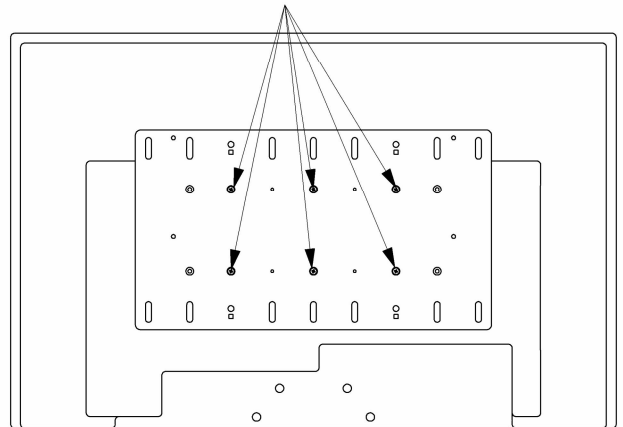

Figure 9. Display with 200mm x 100mm Hole Pattern
1. Select six flat head M4 screws (80) from Bag A and six spacers (150) from Bag C.
2. Attach the interface bracket (20) using the hole-pattern on the back of your display as shown in Figure 9.